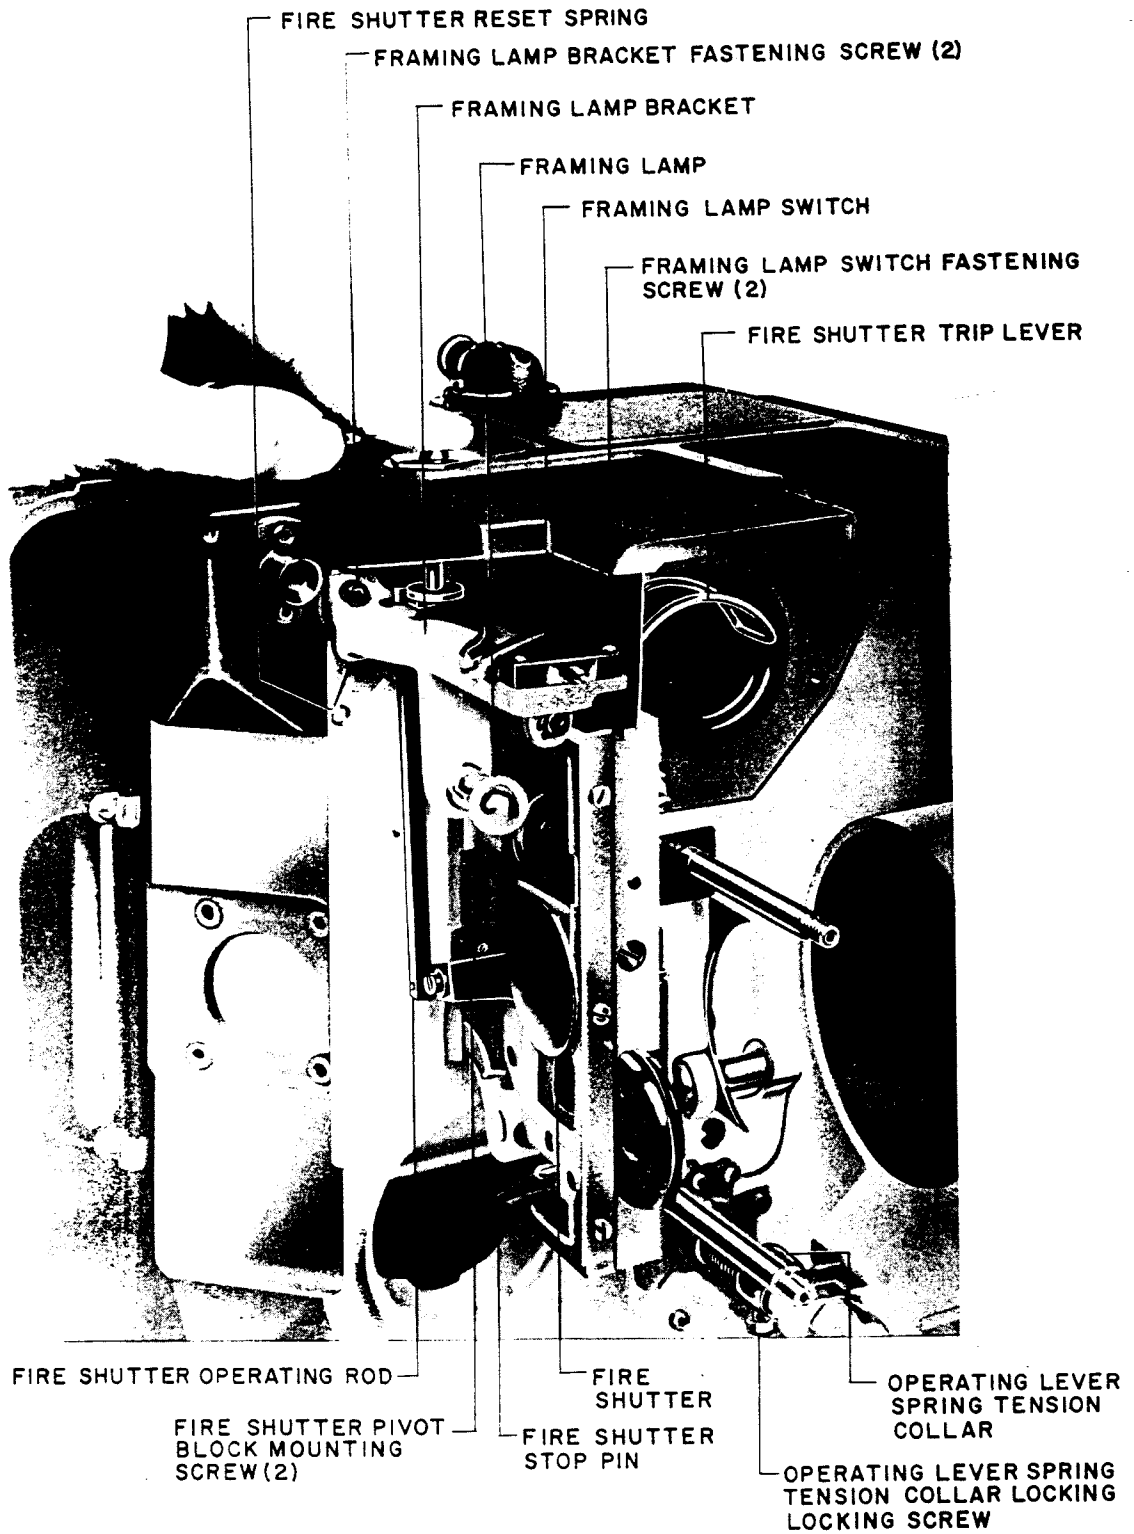

Figure 4-3
2. Film Trap Guide Roller Replacement (See figure 4-3.)